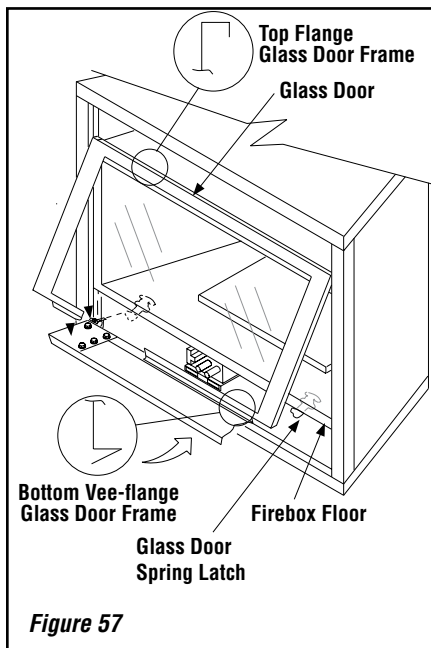

Figure 57
Removing Glass Enclosure Panel (see Figure 57)
Locate the two (2) glass door spring latches at the top of the control compartment (see Figure 57). Pull out each spring latch until it disengages from the door frame bottom vee-flange. Remove the door by tilting it outward at the bottom and lifting it up. Set the door aside, taking care to protect it from inadvertent damage.
Installing Glass Enclosure Panel (see Figure 57)
Position the door in front of the firebox opening with the bottom of the door held away from the fireplace (Figure 57). Hook the top flange of the door frame over the top of the firebox frame.